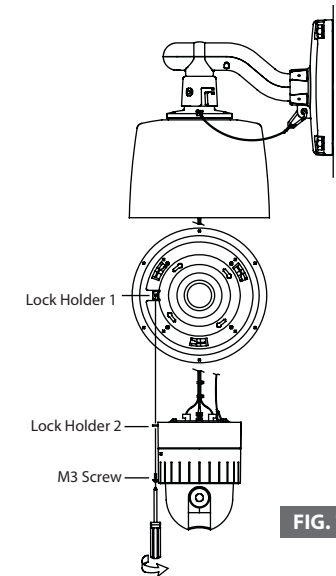

FIG. 7
- Place the Camera mount Holder on the Bracket Mount Hole. To insert them easily, keep 10° interval of Lock Holder 1 and Lock Holder 2. Screw up Lock Holders with screws. (FIG. 7)